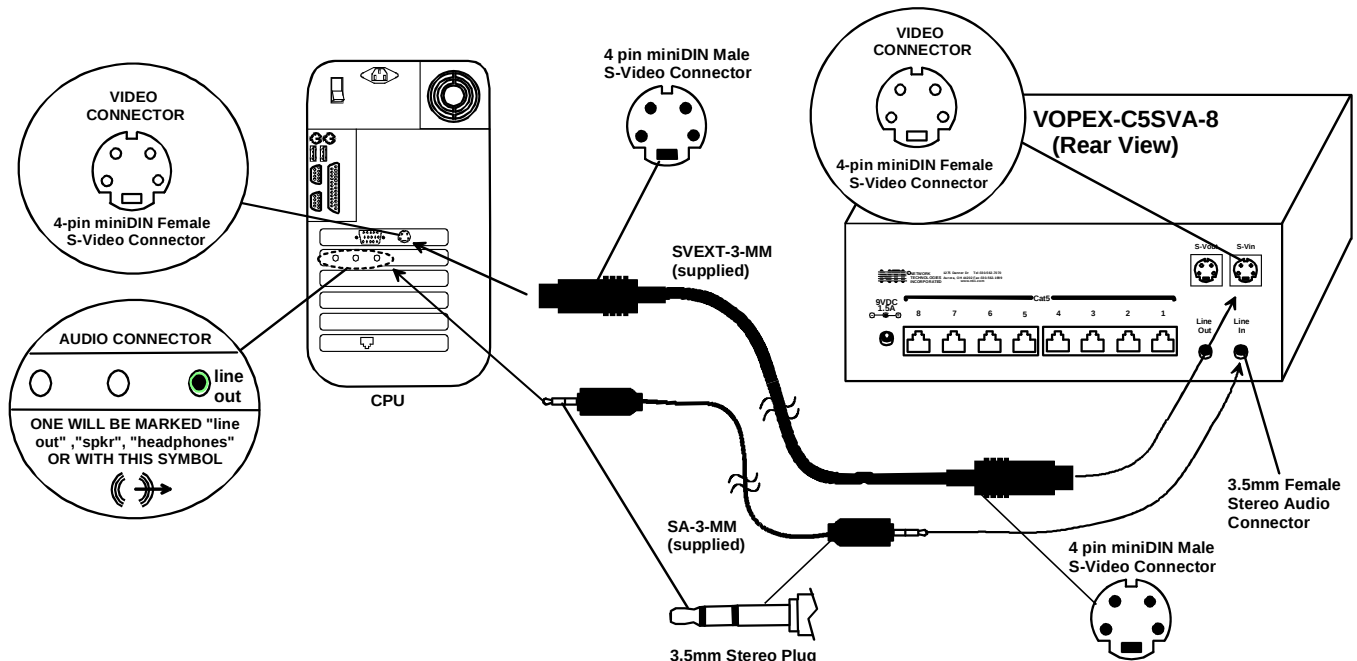

Figure 3- Connecting a VOPEX-C5SVA-8 to a CPU
1. Make connections between the VOPEX-C5SVA-x and the audio and video source(s). (See Fig. 3)